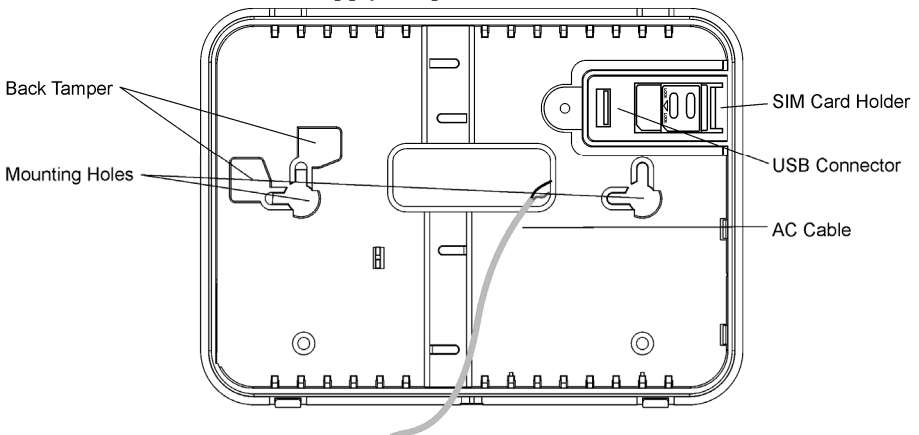

Figure 1: Back cover
4. If the AC cable is not connected thread the power cable through the wiring hole on the back cover and connect the cable to the AC power input on the main board (**Figure 1**).